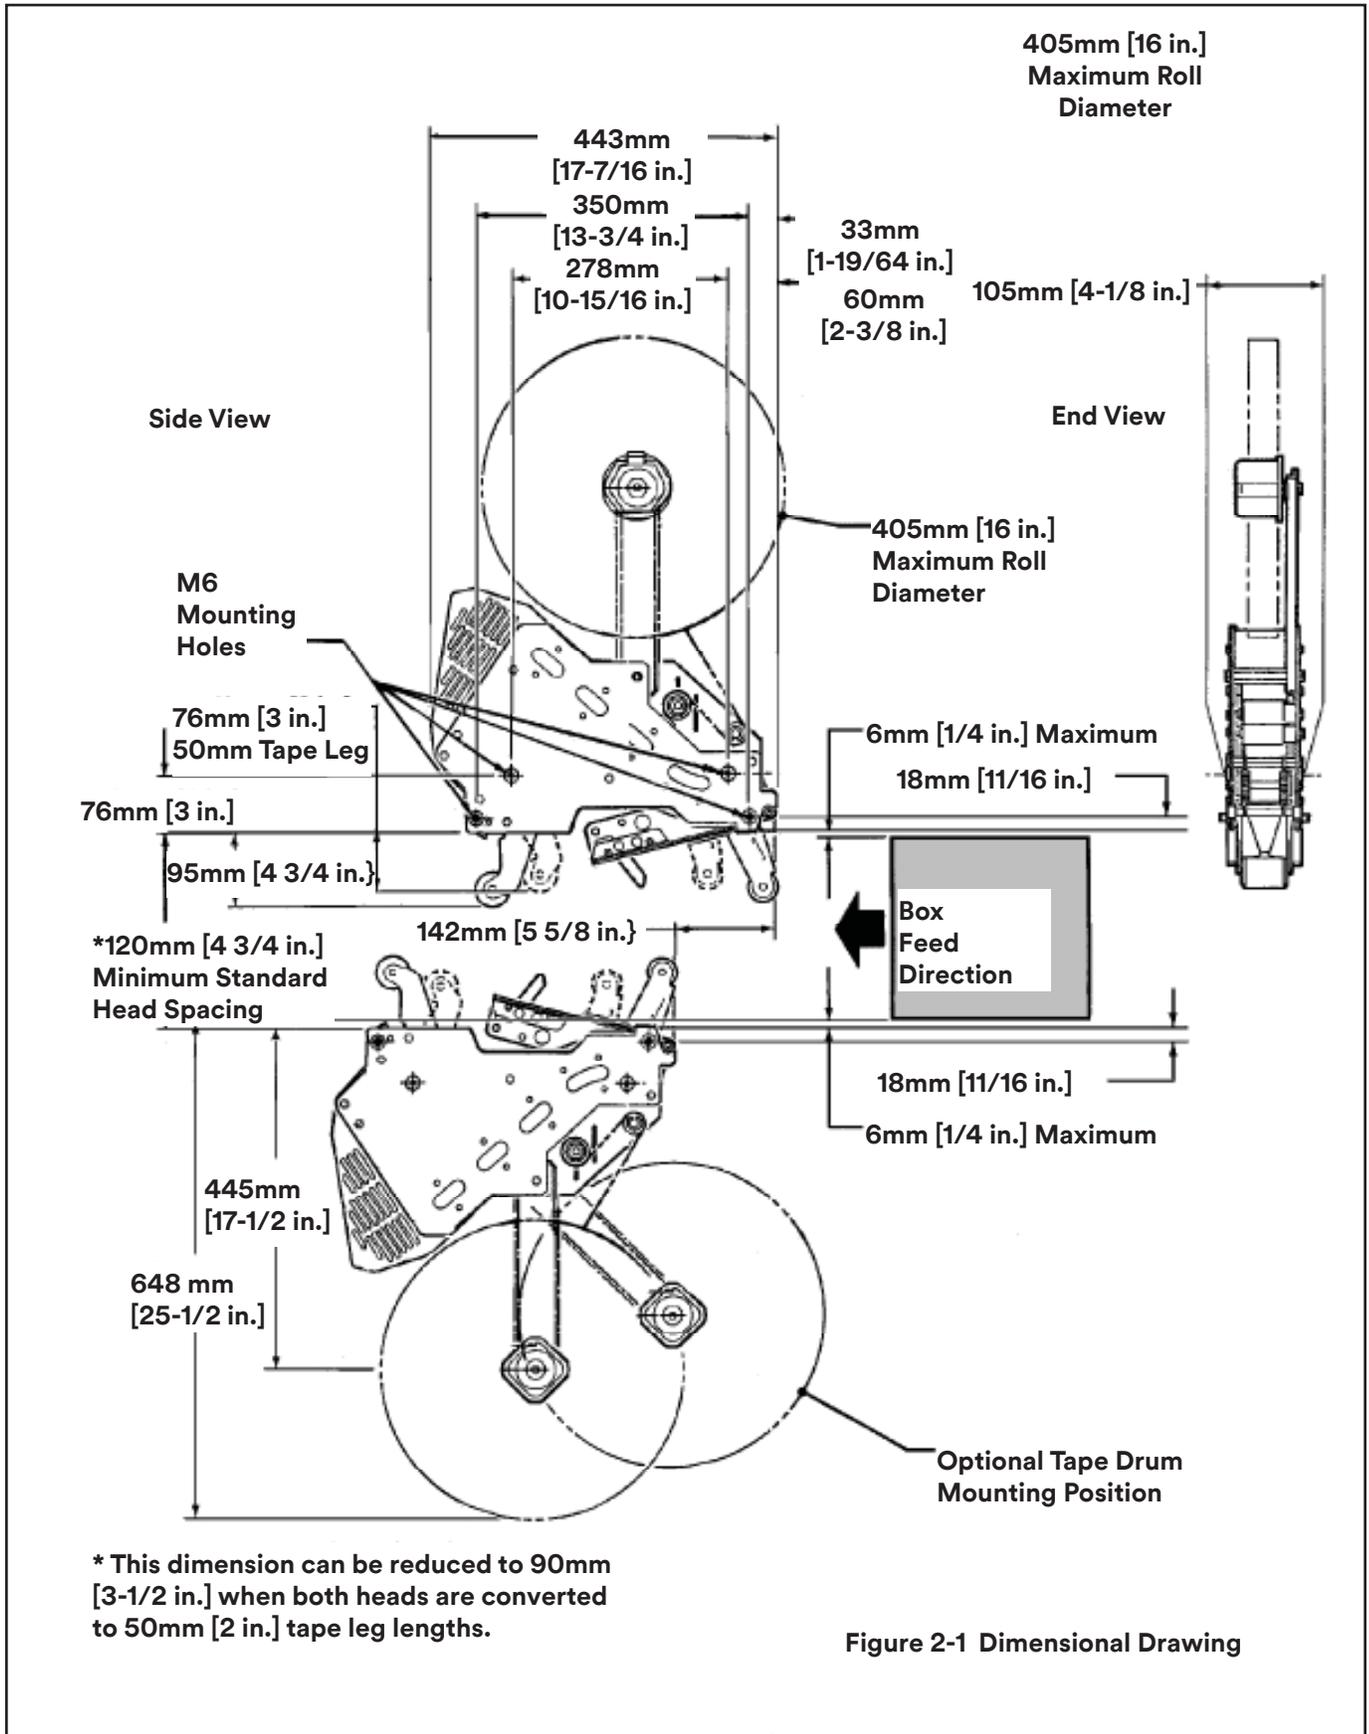

Figure 2-1 Dimensional Drawing
It can be mounted for top taping or bottom taping. Refer to “Box Size Capacities,” as well as **Figure 2-1** in the Specifications section, for following points making installations:
3. **Figure 2-1** illustrates the typical mounting relationship for opposing taping head assemblies to allow taping of box heights down to 90mm [3-1/2 inches]. To tape box heights down to 70mm [2-3/4 inches], the taping heads must be completely staggered so only one tape seal is being applied at one time.